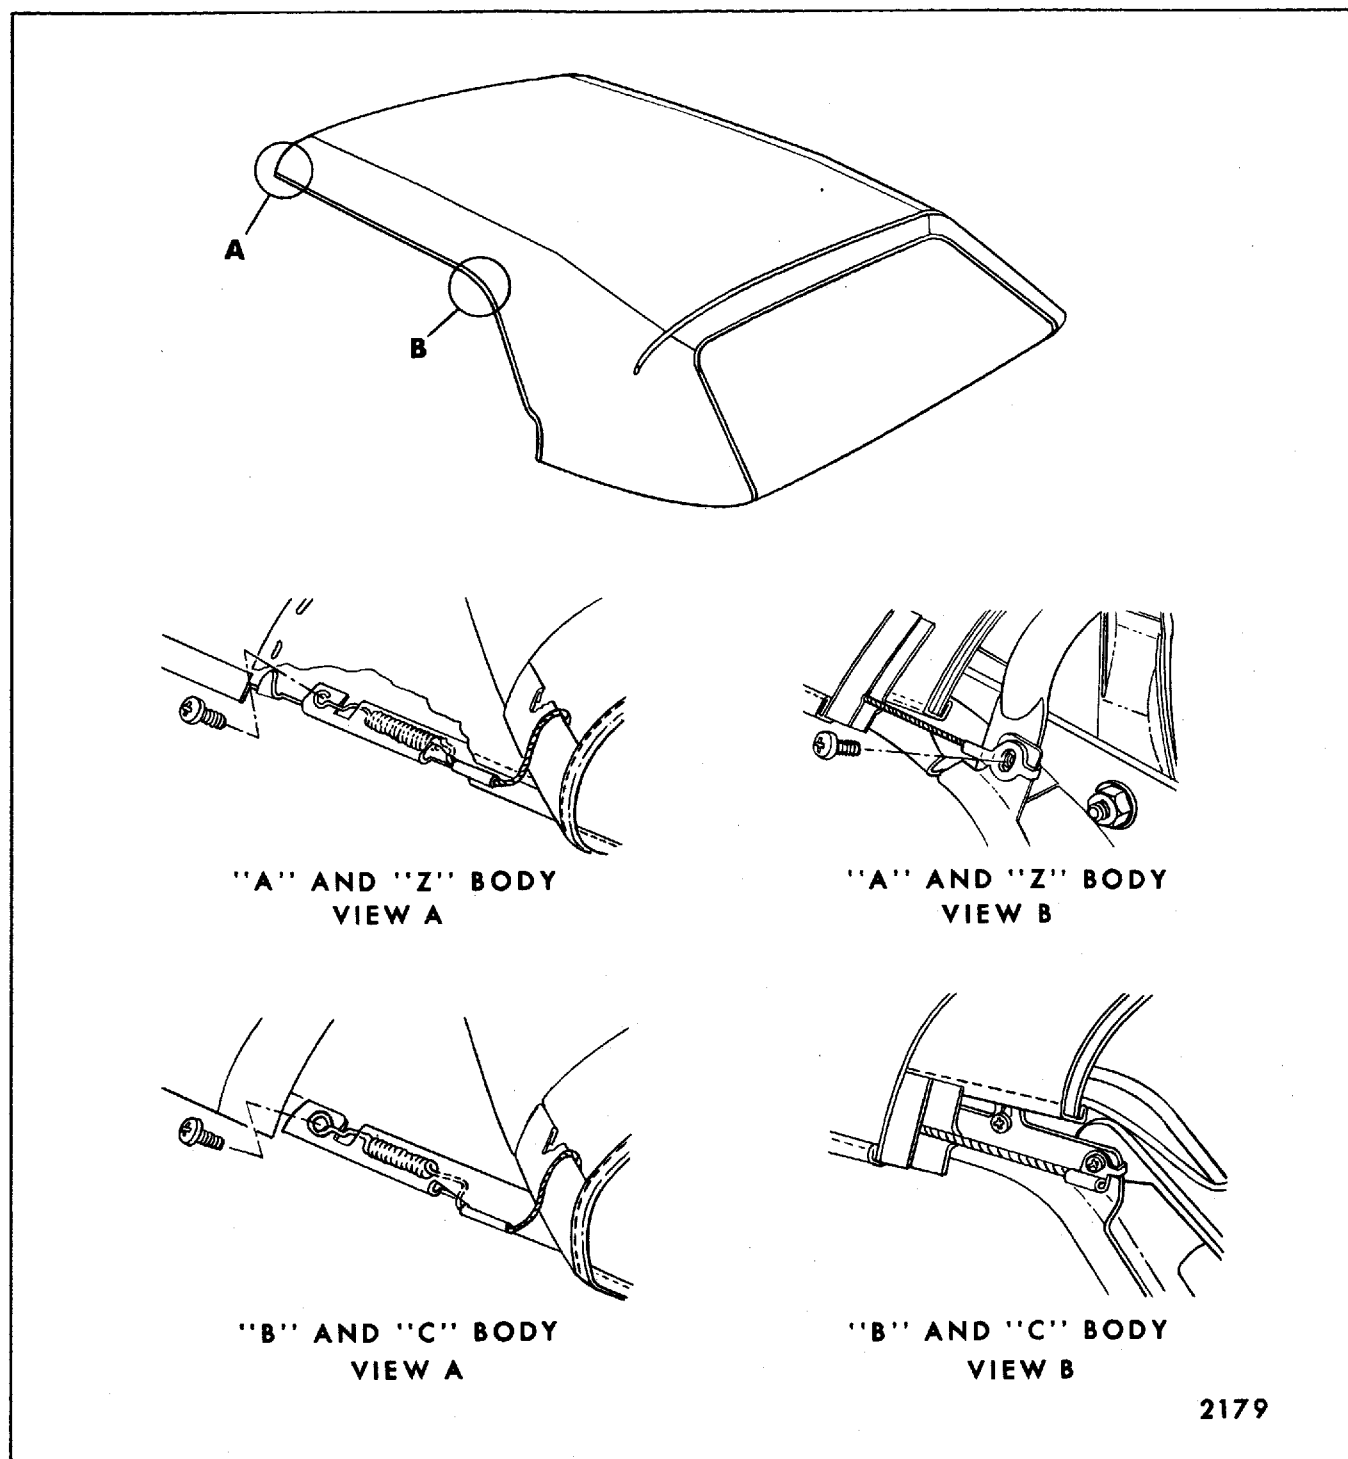

Fig. 6-31—Convertible Top Material Hold Down Cable
12. At right and left side roof front and rear rails, remove hold-down cable front and rear attaching screws. (See Views "A and B" in Fig. 6-31).
14. After cables have been inserted in hold-down pockets in top material, securely install front and rear cable attaching brackets to side roof front and rear rails (Fig. 6-31).